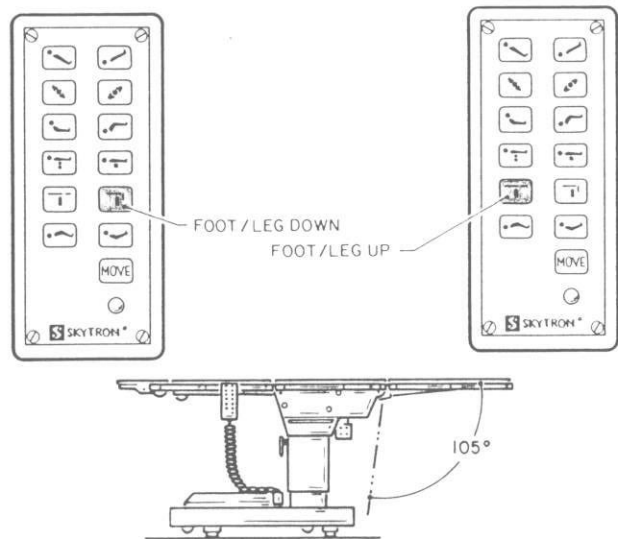

Figure 2-10. Foot/Leg Positioning (6001 only)
f. Foot/Leg Section (6001 only). To lower the foot/leg section, push the LEG-DOWN button (figure 2-10.). The foot/leg section will go down to 105° below horizontal. To raise the foot/leg section back to horizontal, push the LEG-UP button.